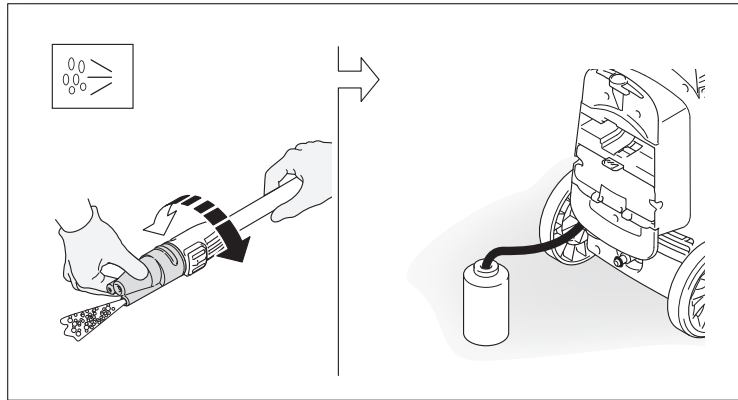

Fig. 18
- Place the detergent suction tube into a container (not included) with detergent. Turn nozzle head to the detergent setting - black nozzle opening. **(Fig 18).**